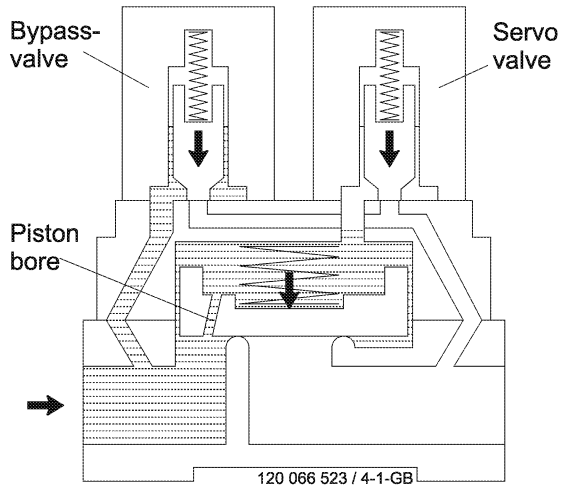

Fig. 1:
1. Valve closed (Fig. 1)
When the preset fuel volume is reached, the bypass valve closes when the system sends a signal (see Fig. 1); the fuelling operation is terminated.